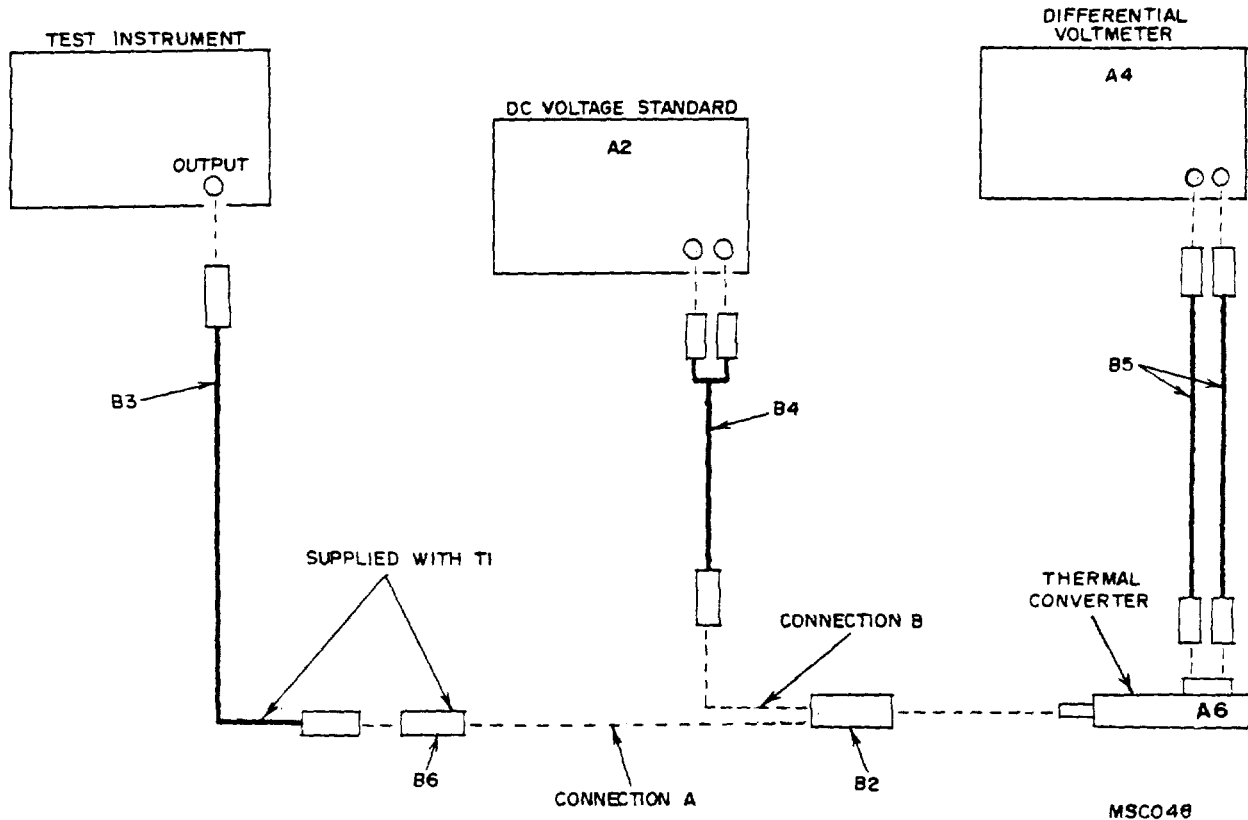

Figure 3. Frequency response - equipment setup
(1) Connect equipment as shown in figure 3, connection A.
(2) Position controls as listed in (a) through (c) below:
(3) Record differential voltmeter (A4) indication as V1.
(4) Connect equipment as shown in figure 3, connection B.
(5) Adjust dc voltage standard (A2) output until value of V1 is indicated on differential voltmeter. Record dc voltage standard indication.
(6) Adjust dc voltage standard to +3 percent of value recorded in (5) above. Record differential voltmeter indication as V2.
(7) Adjust dc voltage standard to -3 percent of value recorded in (5) above. Record differential voltmeter indication as V3.
(9) Reconnect equipment as shown in (fig. 3), connection A.
(10) Set FREQUENCY RANGE switch to each range POSITION, and at each range POSITION rotate the frequency dial throughout this range. Differential voltmeter will indicate between V2 and V3 for frequencies from 350 kHz to 100 MHz.